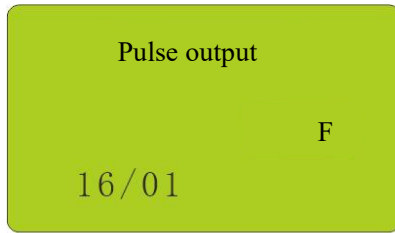

Figure 18
5.4.5 Internal parameter to be set for the instrument: system settings (Figure 18)